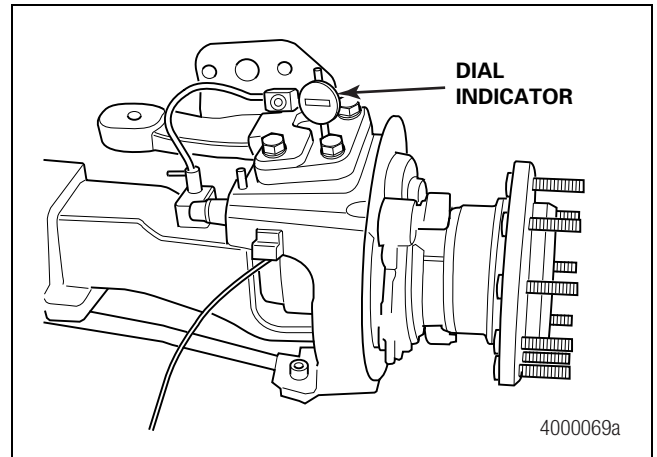

Figure 5.6
- D. Place a jack and a wood block, with a hole that allows clearance for the lower grease fitting, under the lower king pin cap area. Figure 5.6.
For heavy-duty axles, the reading must be 0.005-0.015-inch (0.127-0.381 mm). Figure 5.6.